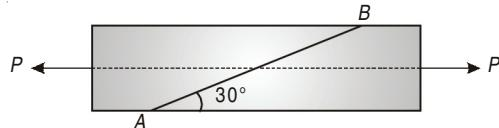

Fig. 2.23
- 2.1** A two wooden pieces $10 \text{ m} \times 10 \text{ cm}$ in cross section are glued together along line AB as shown in Fig. 2.23. What is the maximum axial force P can be applied if the allowable shearing stress along AB is 1.2 N/mm^2 .